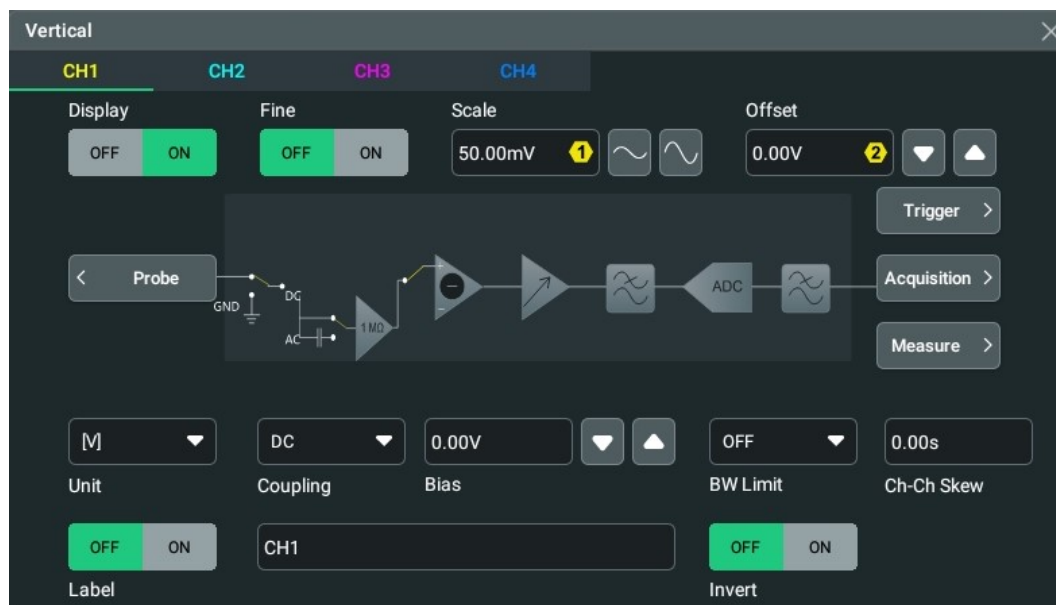

Figure 2.1 Vertical Menu
- In *Figure 2.1*, select the CH1 tab. Click or tap the **Display** on/off switch to turn CH1 on or off.
- In *Figure 2.1*, set **Display** to OFF to disable CH1.